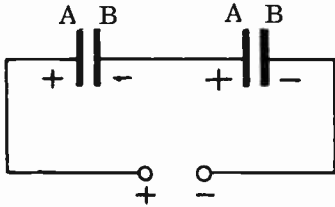

FIG. 4-24. CAPACITORS IN SERIES.
**CAPACITORS CONNECTED IN SERIES COMBINATION.** When two or more capacitors are connected end to end, as shown in Figs. 4-24 and 4-25, the capacitors are said to be connected in series.